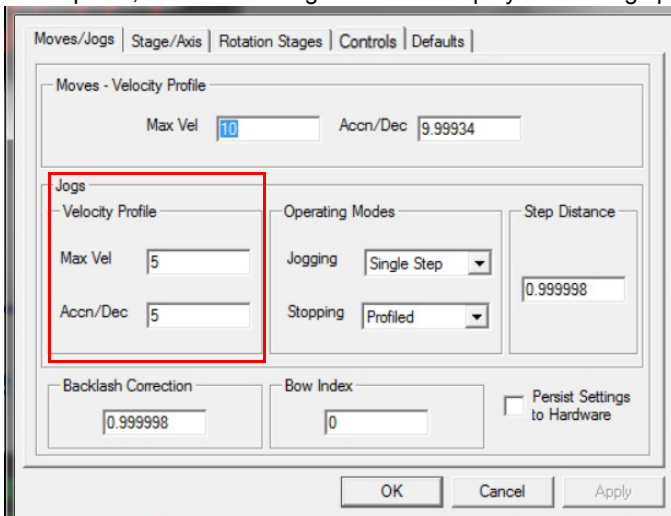

Fig. 5.6 Settings Panel - Move/Jogs Tab
During PC operation, the motor actuators are jogged using the GUI panel arrow keys. There are two jogging modes available, 'Single Step' and 'Continuous'. In 'Single Step' mode, the motor moves by the step size specified in the Step Distance parameter. If the jog key is held down, single step jogging is repeated until the button is released - see Fig. 5.6. In 'Continuous' mode, the motor actuator will accelerate and move at the jog velocity while the button is held down.
- 2) Select the Move/Jogs tab as shown in Fig. 5.6.